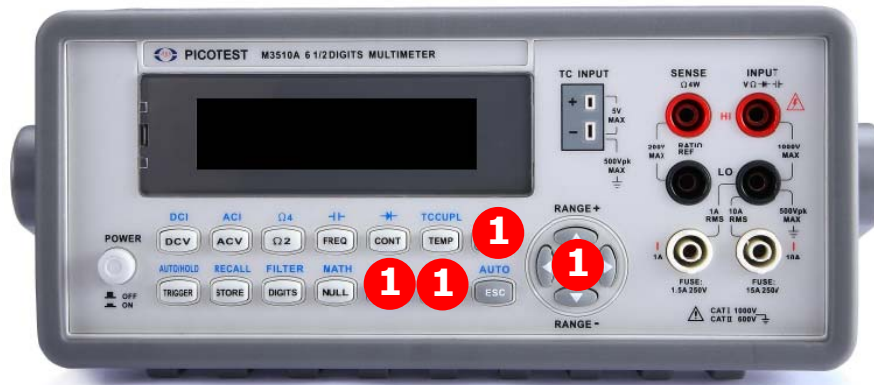

Figure 4-30
1. Do the procedure SHIFT + CONFIG > SYSTEM > BEEP > ON/OFF > ENTER to enable or disable the beep as shown in **Figure 4-30**.